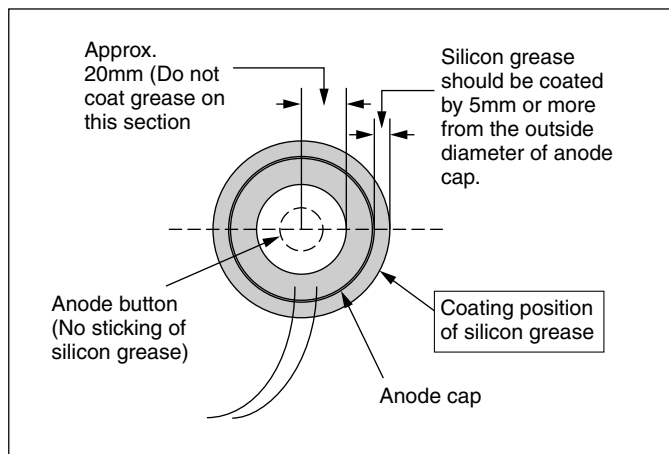

Fig. 8
- 2. Coat silicon grease on the section around the anode button. At this time, take care so that any silicon greases dose not sticks to the anode button. (Fig. 8)